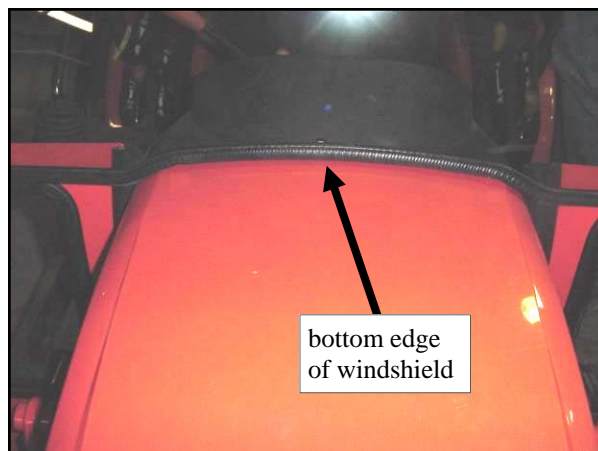

Fig. 17.1 (view from front center of vehicle)
**17.1** Have the following items ready to use: two plastic spacer blocks, four flat head screws (1 3/4" long), four flat steel washers, and four 5/16-18 locknuts. Place the windshield on the vehicle by resting it on the hood of the vehicle. See fig. 17.1.